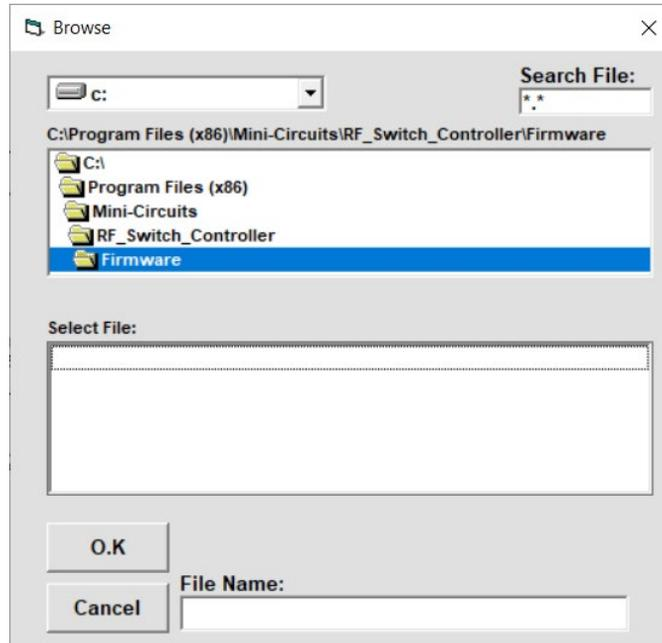

Figure 3.5.5: Firmware - Browse Window
3.5.5 **A browse window will open to the firmware directory** under the path you selected when installing the GUI program (See Fig. 3.5.5). Navigate to where you saved your firmware file, Select the firmware version you wish to install and click 'O.K'.